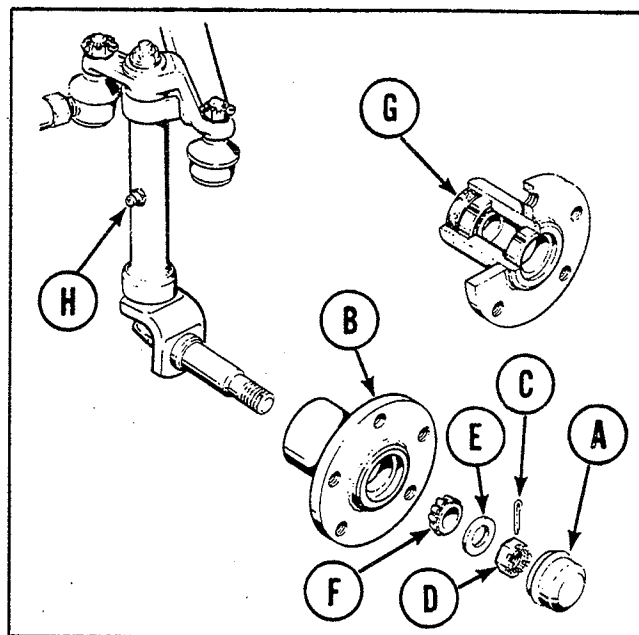

Figure 35. Right front spindle and axle assembly.
1. See figure 35. Block up the front axle of the tractor so the wheel you are to work on is not supporting the tractor.
2. Use a pliers or claw hammer to remove the dust cover (A) from the wheel hub (B). The dust cover will be easier to get off if the wheel is removed.
3. Remove the cotter pin (C).
4. Use a 1-1/8 inch wrench to remove the nut (D) by turning it counter-clockwise.
5. Remove the washer (E) and outer bearing (F) and pull the hub off the axle.
6. Use a large drift punch to push the seal (G) out of the hub. You should keep the two bearings separate so you can put them back in their original place.